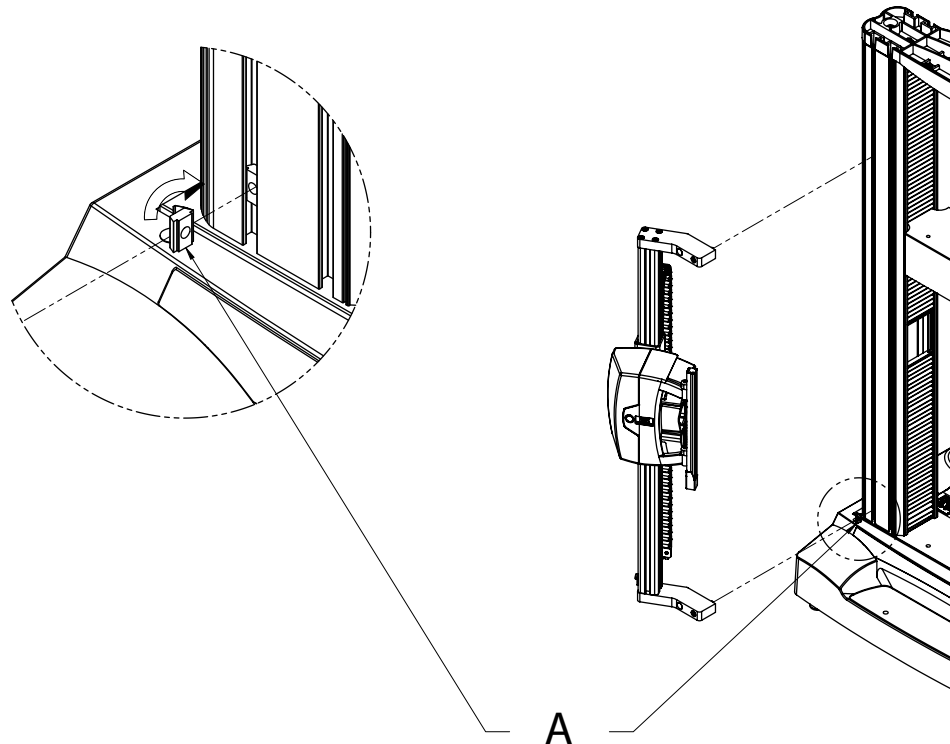

Figure 2. T-nut inserts for columns
Figure 2 on page 26 shows the T-nut (A) inserted in the appropriate slot in the column on the frame. These T-nuts form the anchors for the support brackets on 6800, 3400, 5900, 3300 and 5500 Series testing machines.